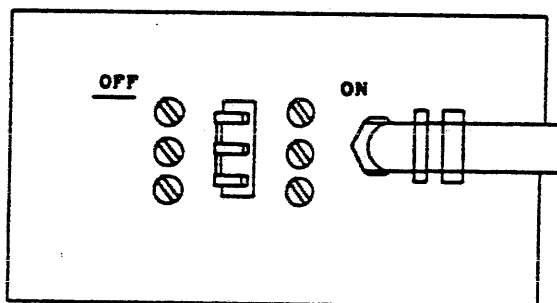

FIGURE 4-2. PRIMARY POWER INPUT CIRCUIT BREAKER AT S02 (OFF POSITION)
1. Verify that the circuit breaker located at S02 is in the OFF position. See Figure 4-2.